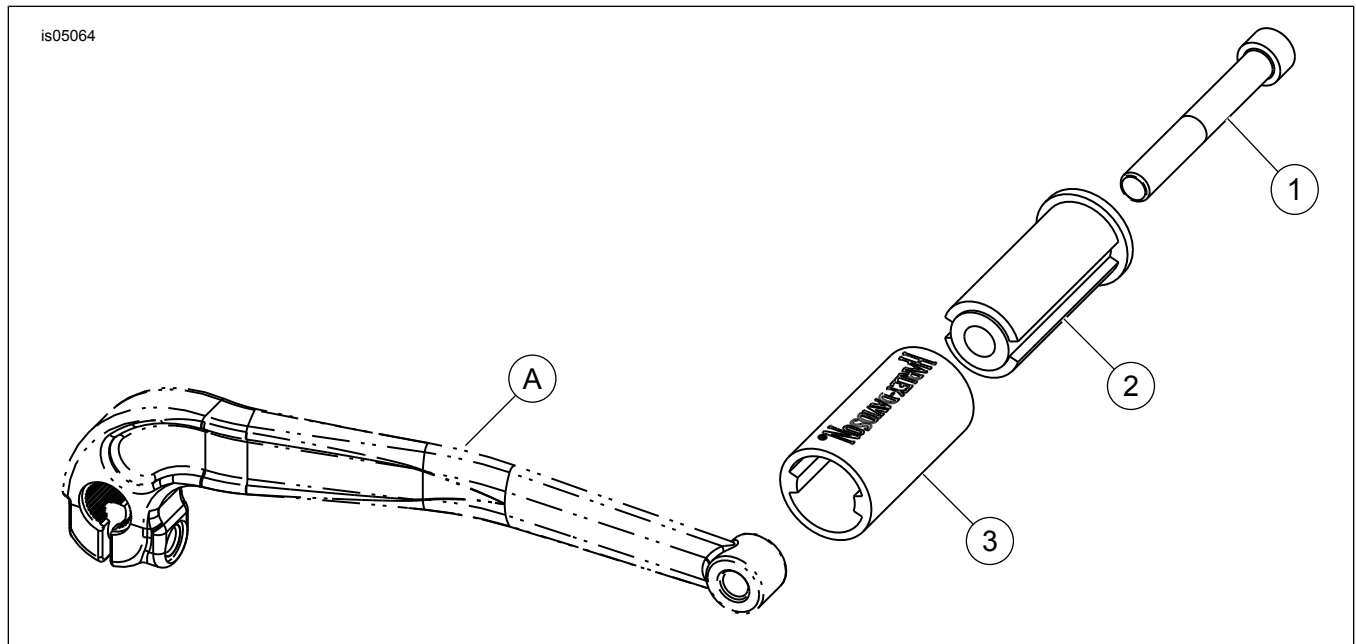

Figure 1. Service Parts: Shifter Peg Kit
See Figure 1 and Table 1.
2. See Figure 1. Insert body (2) into cushion (3). Install to shift pedal (A) with screw (1).